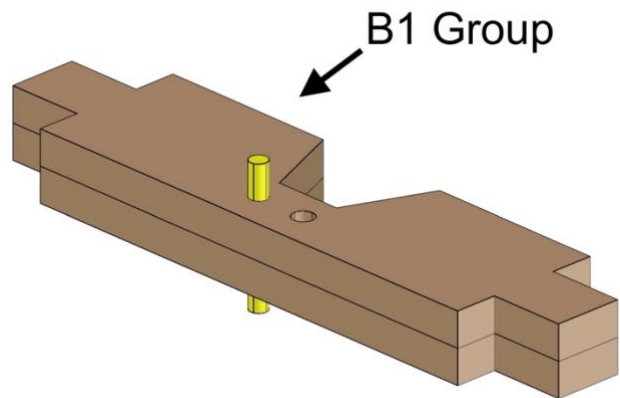

Fig. 10
- Fig. 10 shows the completed process.